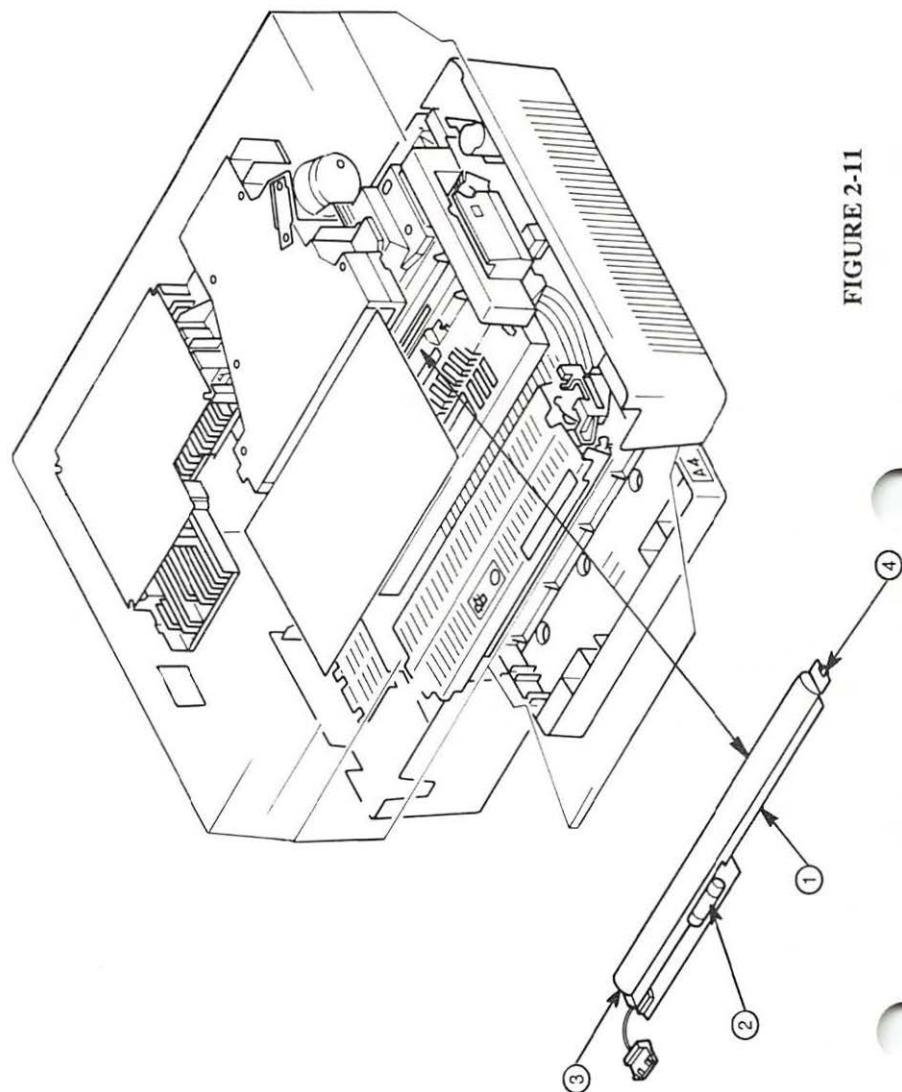

FIGURE 2-11
The preconditioning exposure assembly (see Figure 2-11, #1) prepares the print drum in the toner cartridge for a new image. The lamps expose the print drum to a uniform light that neutralizes any leftover charges from the last print cycle, thus "erasing" the previous image from the drum.
The print counter (see Figure 2-11, #2, a fuse-like component that is part of the assembly) shows how many prints have been made on the printer since the counter was installed. Each numbered mark on the counter represents approximately 10,000 pages. When the mercury bubble in the counter reaches "10," the counter should be replaced.
In these instructions, right and left are used with reference to Figure 2-11.
2. Remove the single mounting screw at the left of the assembly (see Figure 2-11, #3).
3. To remove the assembly, put one finger on the right side of the assembly and push to the left until the tab at the right (see Figure 2-11, #4) comes free.